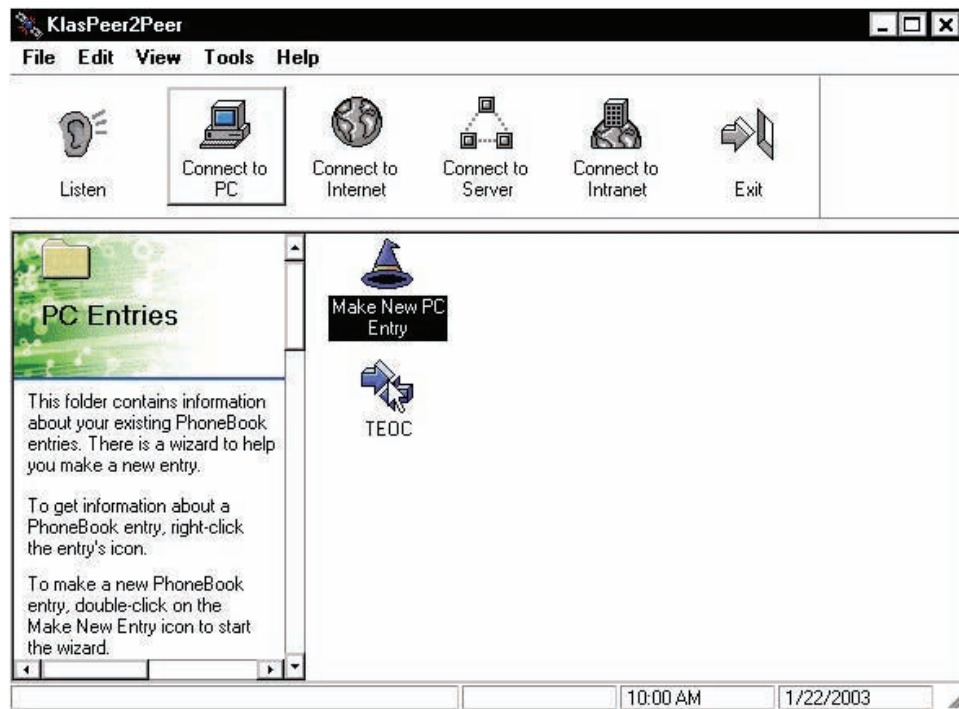

Figure 29. TEOC connection icon.
- Double click on the TEOC connection configured on the system (Figure 29). (Connections to other TCE-Fs can be provided. Contact the TEOC for setup.)